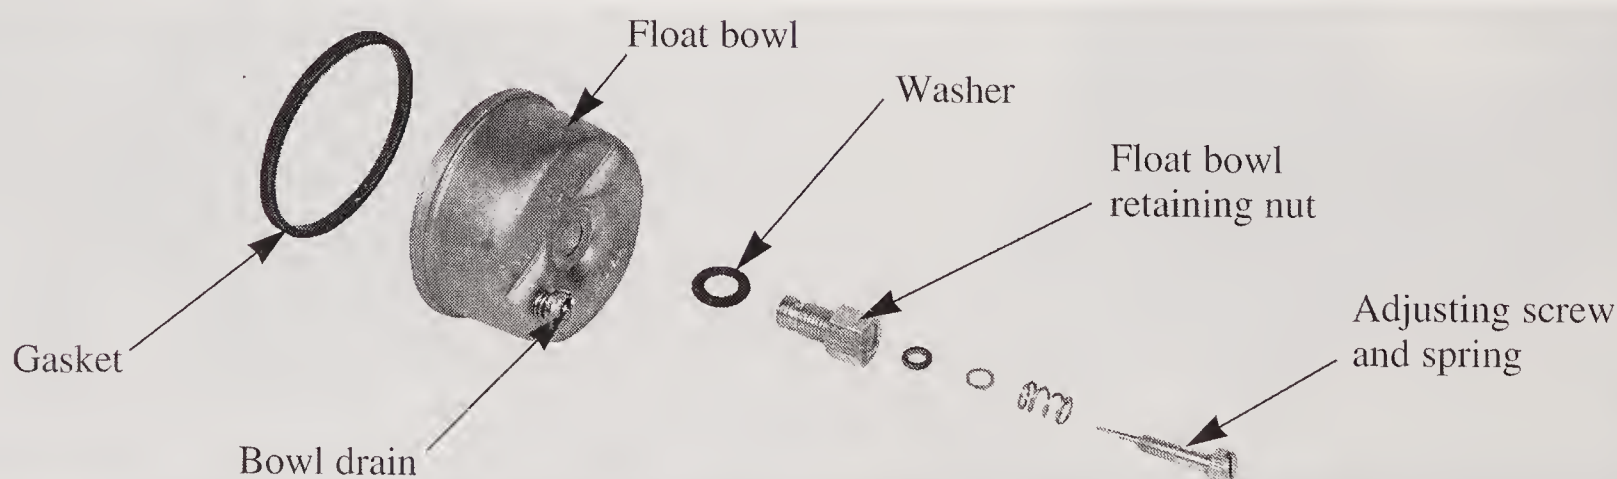

Figure 13-20. Float bowl is assembled in the order shown. A new gasket should always be used when reinstalling the float bowl. (Tecumseh Products Co.)
13. Install float-bowl over float assembly with mounting screw. Use a new gasket or O-ring to seal bowl. See **Figure 13-20**.